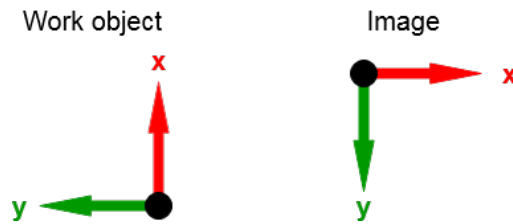

Figure 3: Coordinate systems for work object and image
Images in Python are usually represented in matrix form. This means that x increases as you go to the right and y increases as you go downwards, as illustrated in figure 3 below. It also means that the origin (0,0) is in the top left, not in the middle as you might be used to. The work object, however, has origin in the middle.
You must then transform the axes. For figure 3, the transformation would look like this: $x \rightarrow y$, $y \rightarrow x$, $x \rightarrow -x$, $y \rightarrow -y$.
The position you've now created through the transformation and conversion is in relation to the camera. To actually pick up a puck, you will have to relate the position to the gripper. As previously mentioned, you will capture an image with the camera in front of the gripper, without any rotation. This means that the camera will be 55mm in front of the gripper. You must relate this to your coordinate system (for figure 3 this would be 55mm in the positive x-direction).
- Coordinate systems such as in figure 3
Next, apply the appropriate transformation. With coordinate systems such as in figure 3, the transformation yields a new puck position: $(x, y) = (330, 540)$.